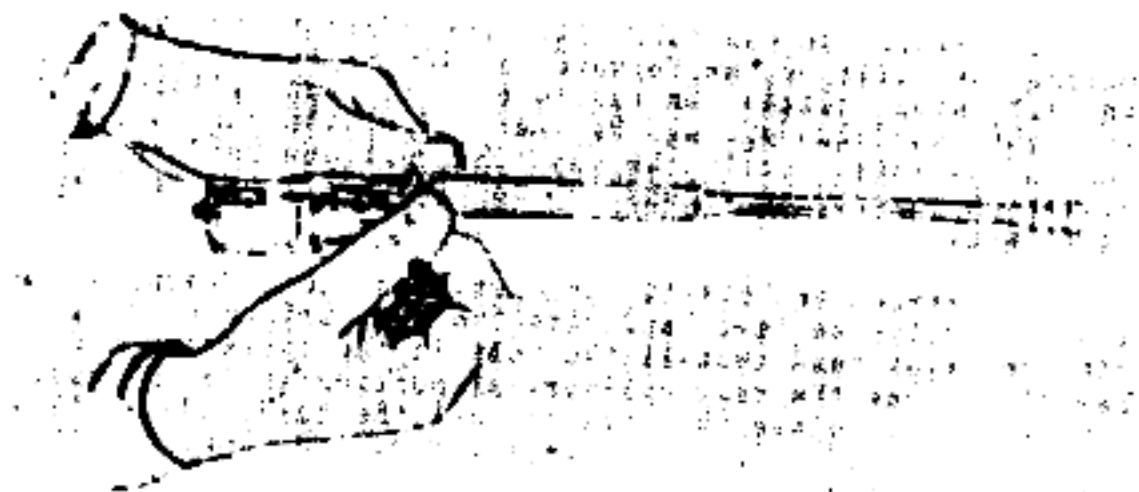

Figure 69. Attaching the bolt to the operating rod.
2. Attach the bolt to the operating rod. Grasp the operating rod with the left hand with the cam surface upward, and with the right hand install the bolt in the operating rod channel so that the rear cylindrical portion is in the operating rod lug; rotate the bolt so that the guide edge enters the variable groove in the operating rod, and then move the bolt forward (fig. 69).